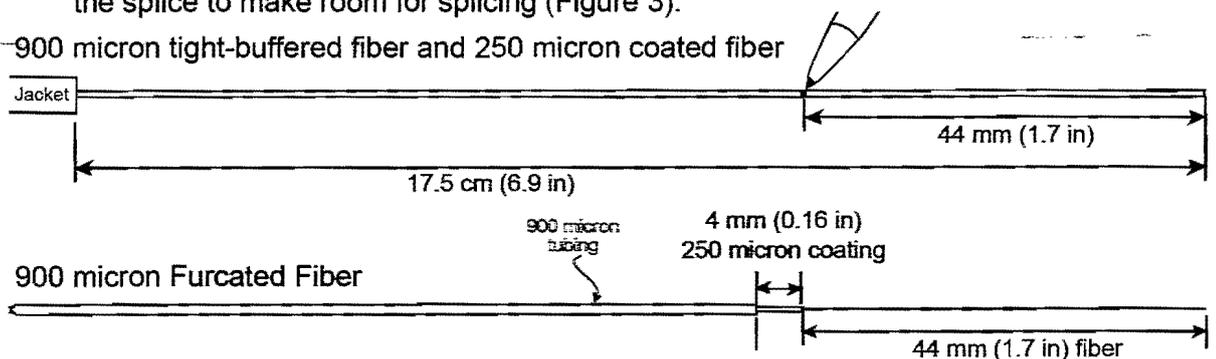

Figure 3 — Remove Jacket, if using Jacketed Cable
- Step 4:** **If using jacketed cables,** remove a minimum of 175 mm (6.9 inch) of jacket on each side of the splice to make room for splicing (Figure 3).
Step 5: Using the Strip Length Gauge and permanent marker, measure and place a visual mark at the dimensional markings shown in Figure 3.
Step 2: With your other hand (Figure 3), place the fiber in the fiber guide so that the end of the fiber is under the fiber clamp and the end of the fiber coating butts against the positive stop.